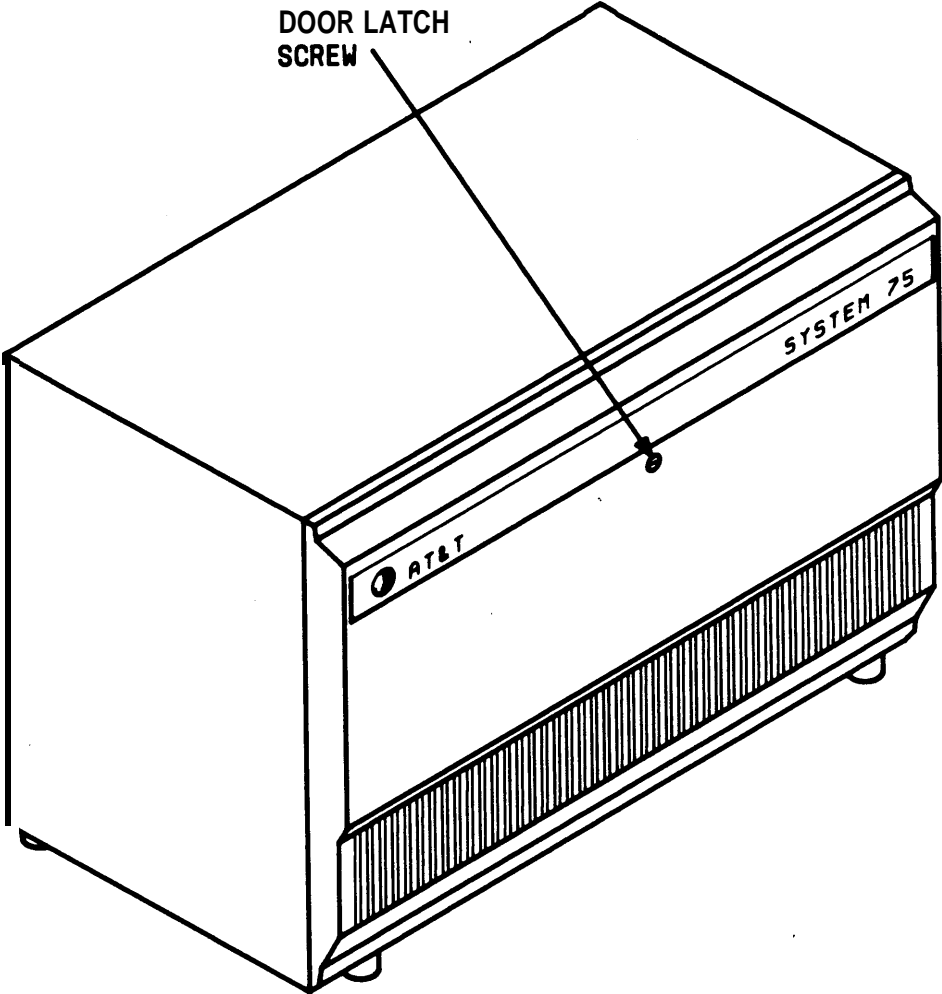

Figure 37. Location of Cabinet Door Latch Screw
- a. Use a screwdriver and turn door latch screw counter clockwise one fourth turn to open door (see Figure 37).